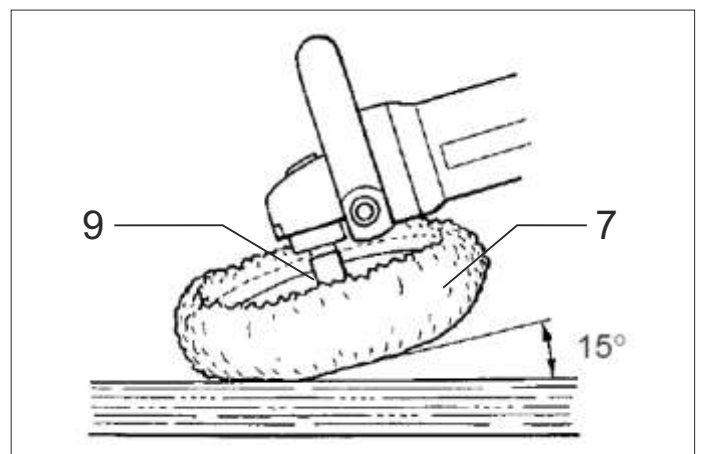

Fig. 8
3.1 Placement and testing (fig. 8)
Pull the trigger **12** and turn the speed adjusting dial **14** until you obtain the appropriate speed for your work. When polishing, keep the wool pad **7** at an angle of about 15° to the workpiece surface (Fig. 8).